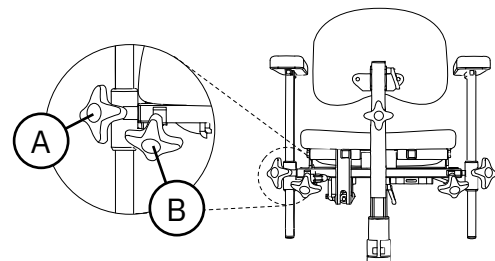

Figure 5.50. PLUS armrest.
The PLUS armrest is adjustable in height (A) and width (B), see Figure 5.50.